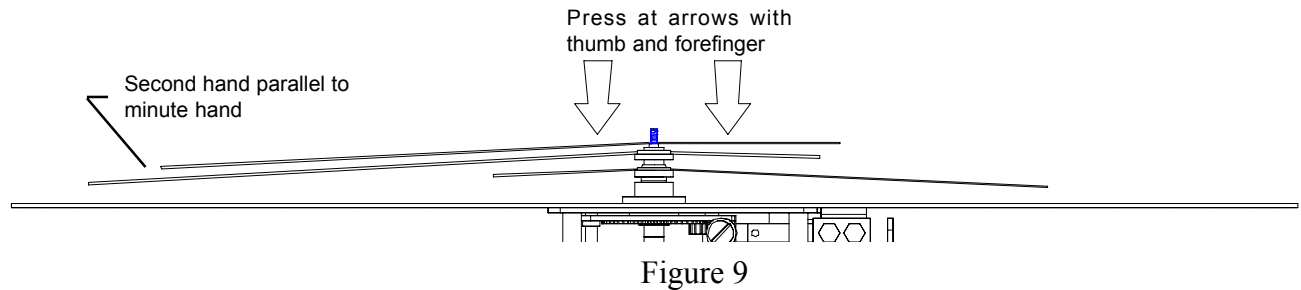

Figure 9
STEP 18: Form the second hand as shown in figure 9. The setting stem may be rotated at this time to make sure the hands do not collide when advancing the clock movement.